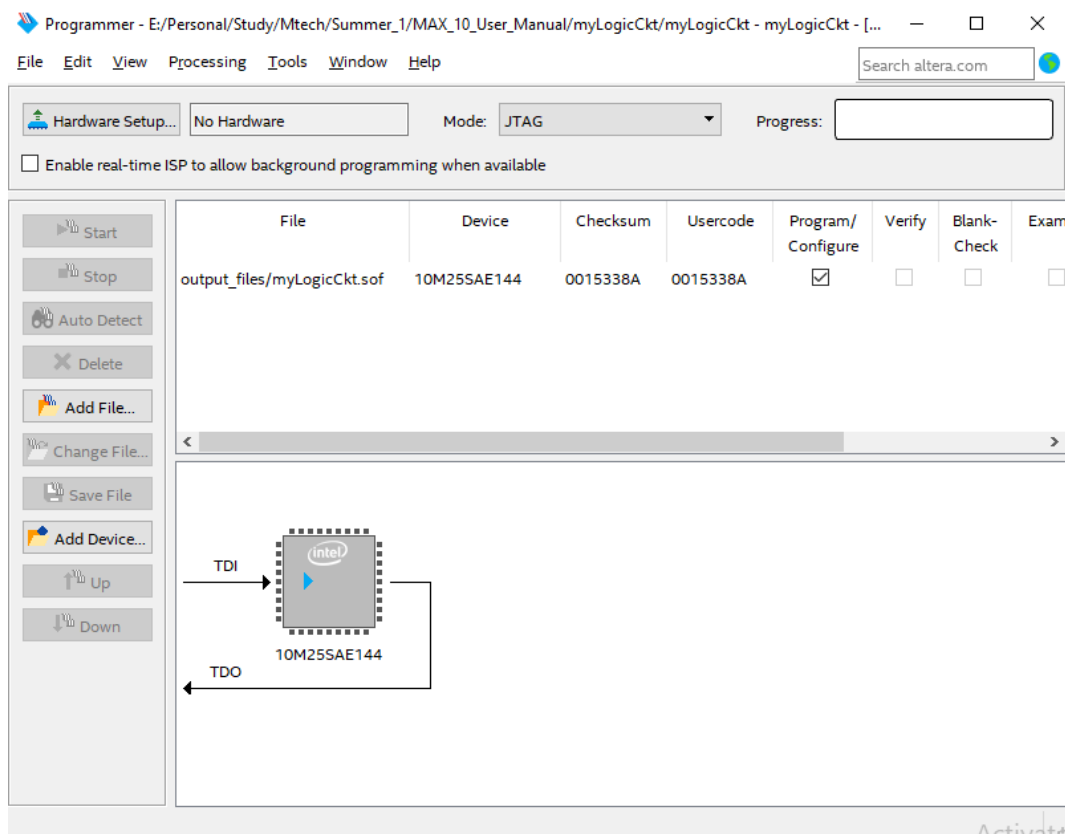

Figure 8: Quartus programmer tool window
- Now go to Tools → Programmer. A programmer window will open. You should see the project output file myLogicCkt.sof in this window as shown in figure 8. If not then click on Add File button present on left panel, your project directory will open up. Navigate to the output_files folder and select .sof file. If this file is not present then you may need to create a fresh project from the start.